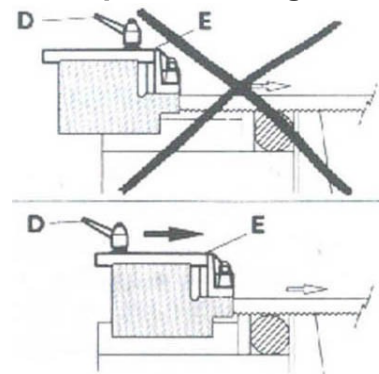

Fig.: 2
Your cutting machine is provided with a sliding guide (E) with built-in protection, which guides the part of the blade necessary to make the cut, and at the same time, protects the part of the blade not in use. To do this, simply slacken the handle (D) and slide the blade guide (E) so as to bring it closer to or farther from the piece that is to be cut (as clearly shown in fig.2).
· Slacken handle D (fig.2) and slide blade guide E as far as it will go, following
the direction of the arrow in fig.2.